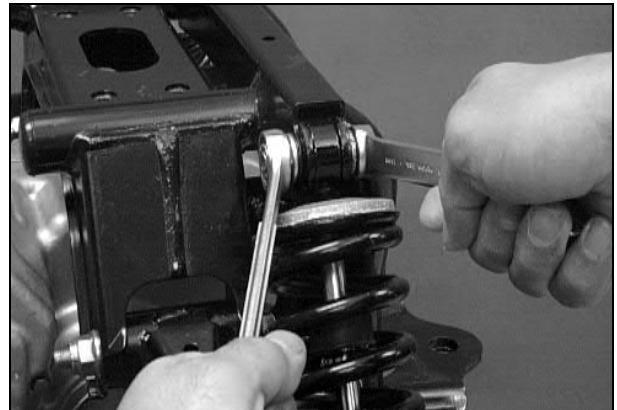

Fig. 29
33. Remove the upper shock mount cap screw to allow access for removal of the two rear engine mount cap screws, (Fig. 29).